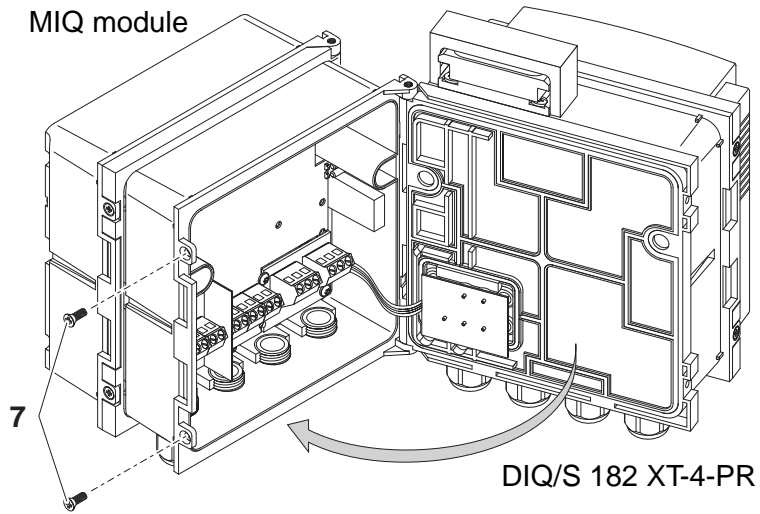

Fig. 3-6 Closing the enclosure (variant 1)
| 8 | Close the cover of the DIQ/S 182-XT-4-PR and fix it in place with the two countersunk bolts (pos. 7 in Fig. 3-6).  |